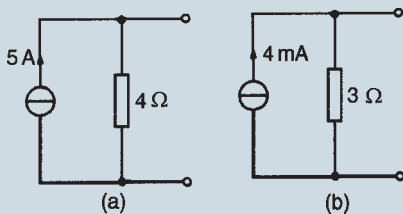

Figure 15.77
- Convert the networks shown in Fig. 15.77 to Thévenin equivalent circuits.